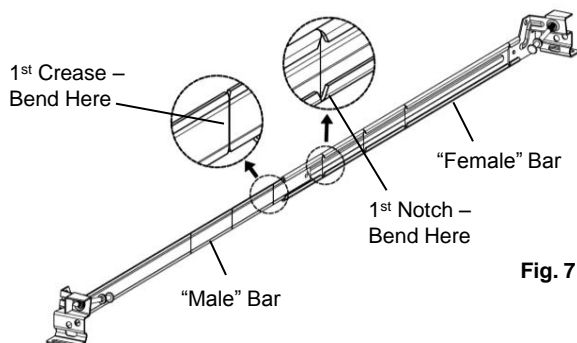

Fig. 7
1. Spread the bars as wide as possible. (Fig. 7)
2. For each hanger bar, bend the “male” bar, back and forth at the 1st crease from the center until it splits. Bend the “female” bar, back and forth, at the 1st notch from the center until it splits. (Fig. 7)